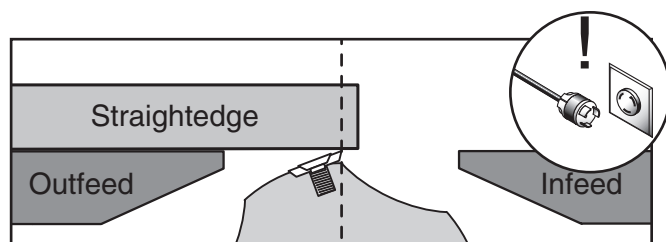

Figure 2. Using a straightedge to align the outfeed table height with insert at TDC.
- When correctly set, the carbide insert will just touch the straightedge when the insert is at its highest point of rotation (**Figure 2**).